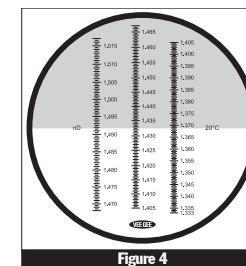
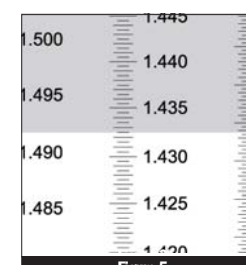

Figure 4
Figure 5
- 7 When the refractometer scale is viewed through the eyepiece (with the dispersion dial at the proper setting), the upper field of view will be seen as grey and the lower field will be seen as white (Figure 4). The reading is taken at the point where the boundary line of the grey and white fields crosses the scale (Figure 5). The value is the Refractive Index (nD) reading of the sample.